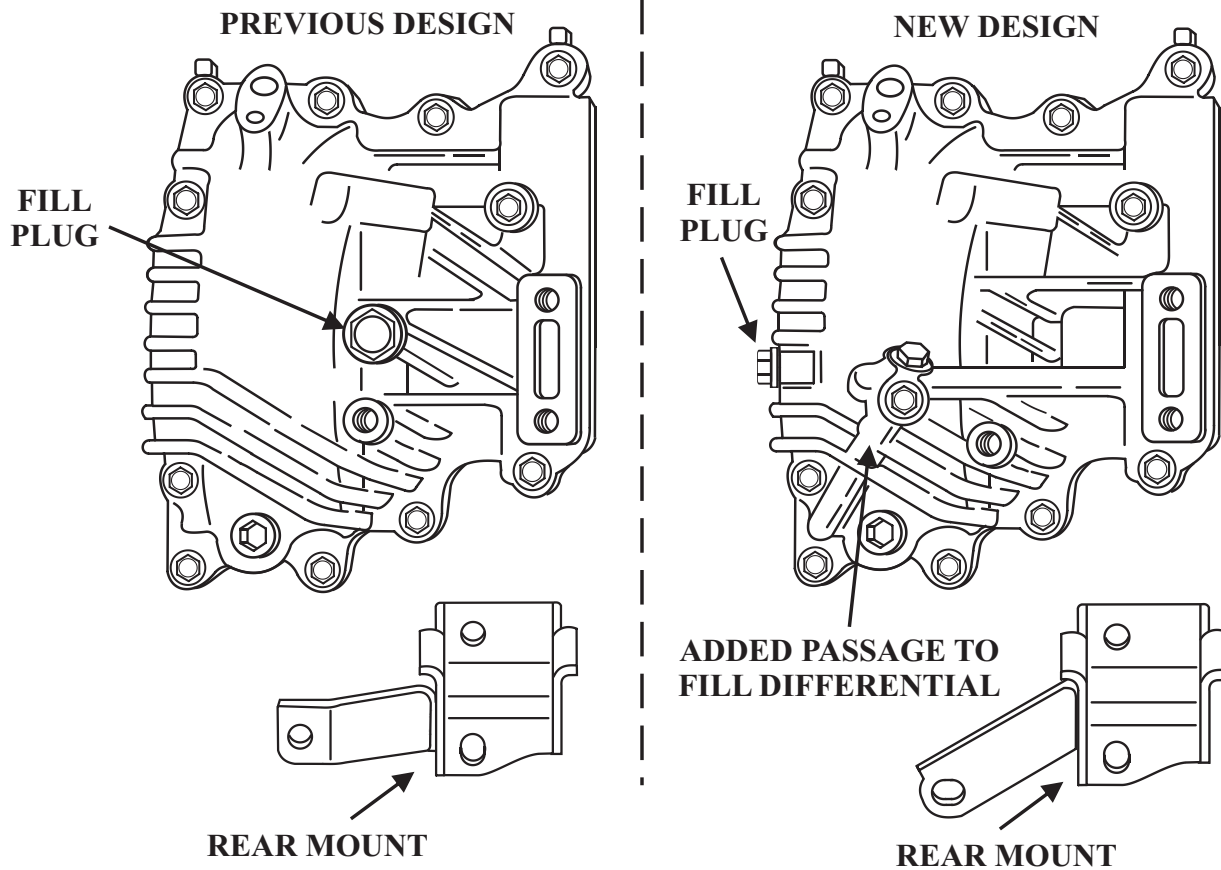

Figure 3
- (2) **TRANSAXLE CASE UPPER COVER** - Added fitting and tube assembly to connect the differential to the transaxles air vent system.
- (3) **DIFFERENTIAL COVER** - Added passage in the cover to transport the oil from the valve body to fill the differential. Refer to Figure 3.
A new design rear engine mount to accommodate the added passage in the differential cover, as shown in Figure 3.